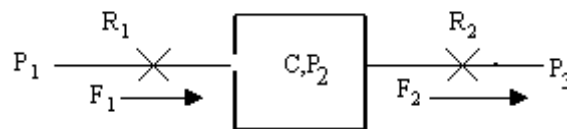

Figure 1
1. In the following figure1, P_1, P_2 and P_3 refer to changes in the pressures upstream, in the tank and downstream respectively and the flows into and out of the tank are influenced by the tank pressure.